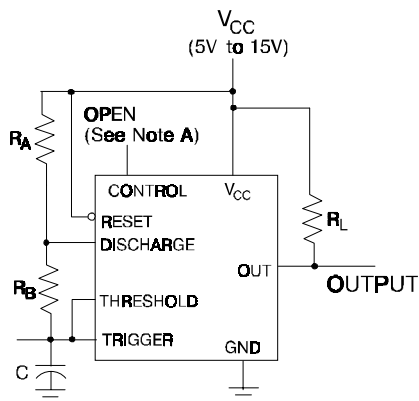

Fig. 1 Circuit for astable operation
1. This parameter influences the maximum value of the timing resistors R_A and R_B in the circuit on Fig 1. For example, when $V_{CC}=5\text{V}$, the maximum value is $R=R_A+R_B=3.4\text{ M}\Omega$, and $V_{CC}=15\text{V}$, the maximum value is $10\text{ M}\Omega$.
5. Values specified are for a device in an astable circuit similar to Fig. 1, with component values as follow: $R_A, R_B=1\text{K}\Omega$ to $100\text{ K}\Omega$, $C=0.1\mu\text{F}$.